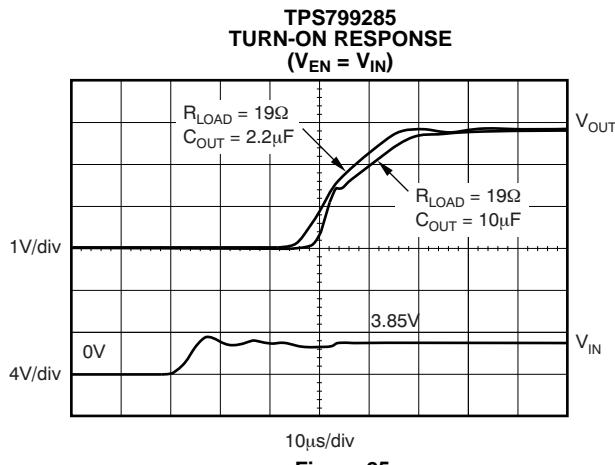

Figure 25.
Note that for fastest startup,  $V_{IN}$  should be applied first, then the enable pin (EN) driven high. If EN is tied to IN, startup will be somewhat slower. Refer to Figure 25 and Figure 26 in the *Typical Characteristics* section. The quick-start switch is closed for approximately 135μs. To ensure that  $C_{NR}$  is fully charged during the quick-start time, a 0.01μF or smaller capacitor should be used.